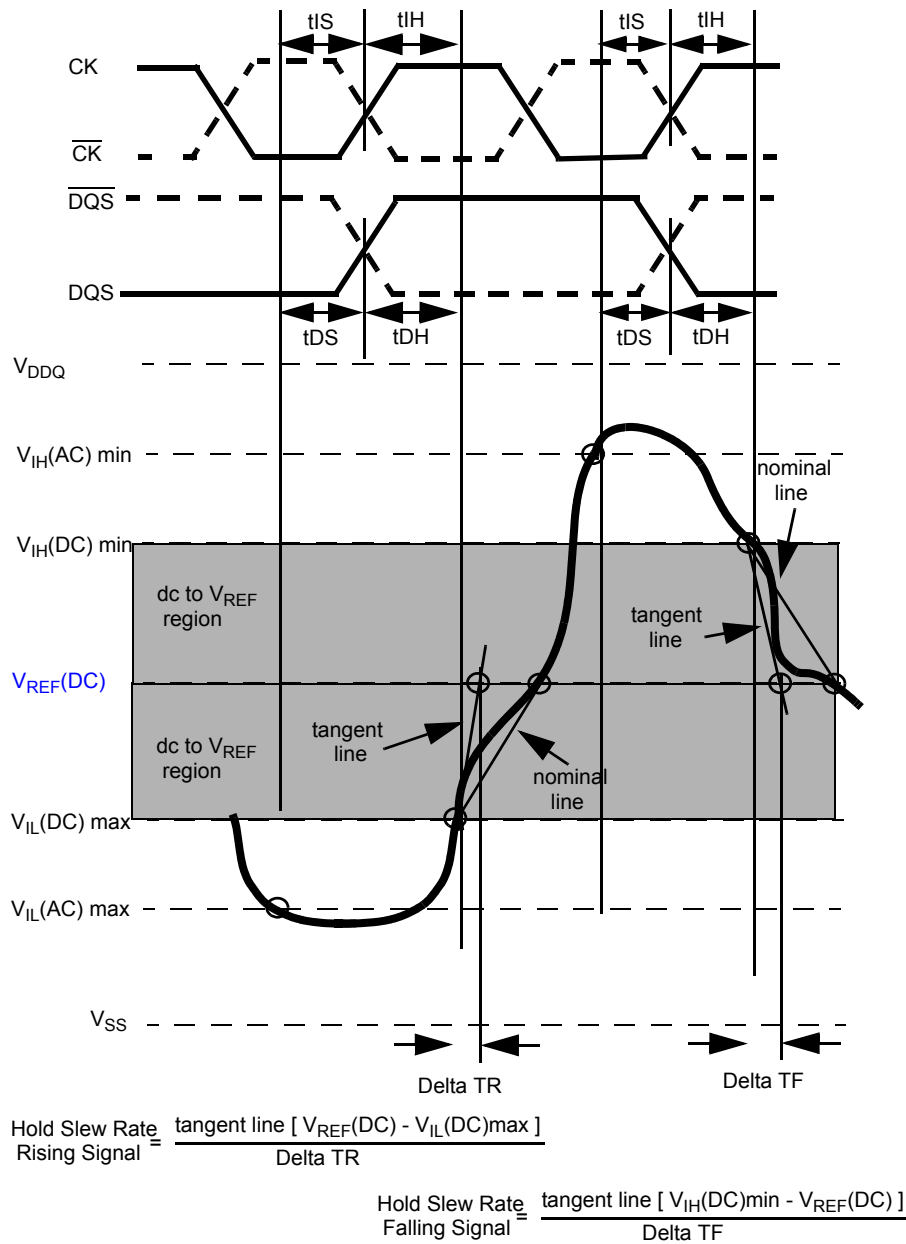

Figure 24 - Illustration of tangent line for hold time tDH (for DQ with respect to strobe) and tIH (for ADD/CMD with respect to clock)
Hold (tIH) nominal slew rate for a falling signal is defined as the slew rate between the last crossing of VIH(DC)min and the first crossing of VREF(DC). If the actual signal is always later than the nominal slew rate line between shaded 'dc to VREF(DC) region', use nominal slew rate for derating value (see Figure 24). If the actual signal is earlier than the nominal slew rate line anywhere between shaded 'dc to VREF(DC) region', the slew rate of a tangent line to the actual signal from the dc level to VREF(DC) level is used for derating value (see Figure 26).